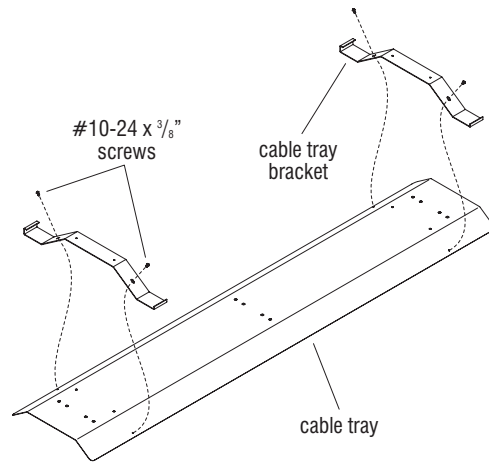

Figure 2
5. Place the cable tray upside down on a soft protective surface. Align the cable tray bracket holes with the holes on the underside of the cable tray and secure using two #10-24 x 3/8" screws per bracket (Figure 2).